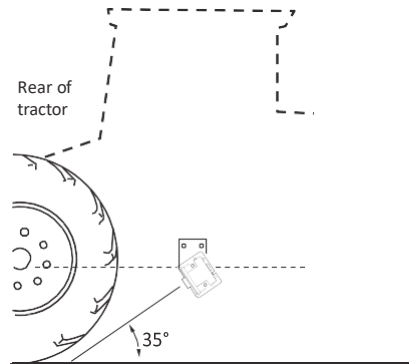

Figure 1: Proper Radar Placement
1. Park the vehicle on level ground. This is necessary in order to install the radar at the proper angle with respect to the ground. Refer to Figure 1 for illustration.